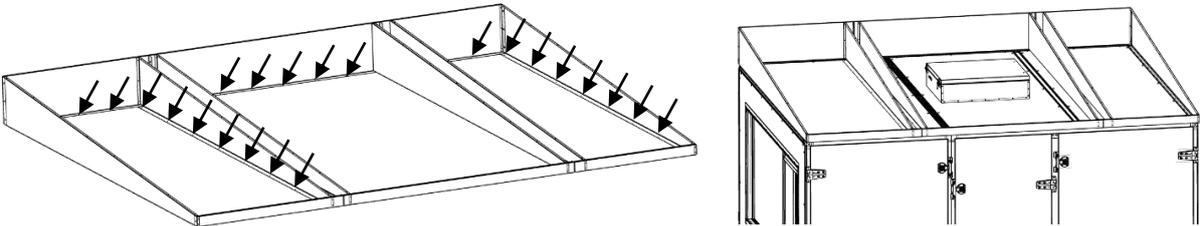

Fig. 131
6. Mount the weather roof assembly to unit with screws from the all holes that as shown (Fig. 131)